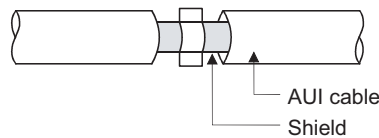

Figure 9.5 AUI cable grounding
- Be sure to ground the AUI cables*¹ connected to the 10BASE5 connectors. Since the AUI cable is of the shielded type, ground the exposed shield section of the cable, where the cable jacket was partly removed as shown in Figure 9.5, on the wildest contact surface.